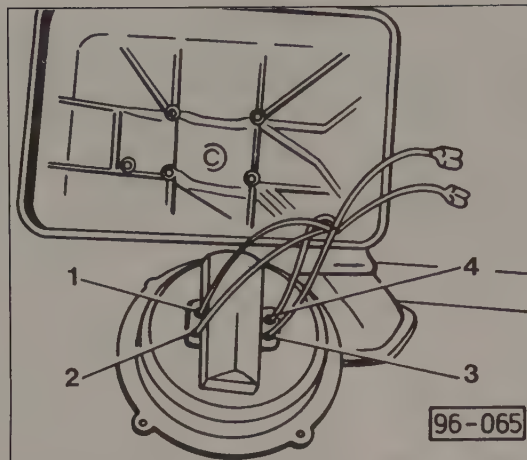
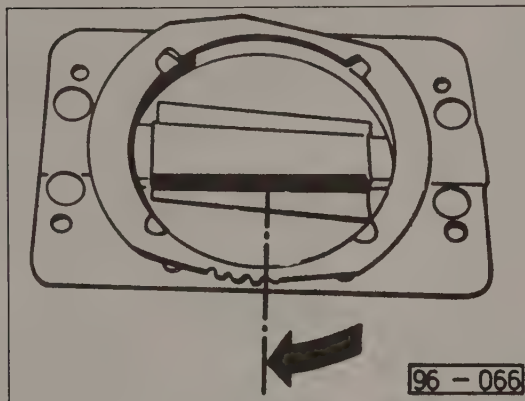

Fig. 5-21. Wire connections to mirror motor. Motor is marked with numbers. Connect blue wire to 1, brown wire to 2, white wire to 3, and black wire to 4.
Fig. 5-22. Mirror detent being pushed to its stop prior to mirror installation.
6. Install the mirror in reverse order. Connect the motor wires as shown in Fig. 5-21. Turn the mirror detent in the direction shown in Fig. 5-22 until it contacts the stop, connect the electrical wires, then place the mirror in the mirror housing and turn the detent in the opposite direction to lock it in position.